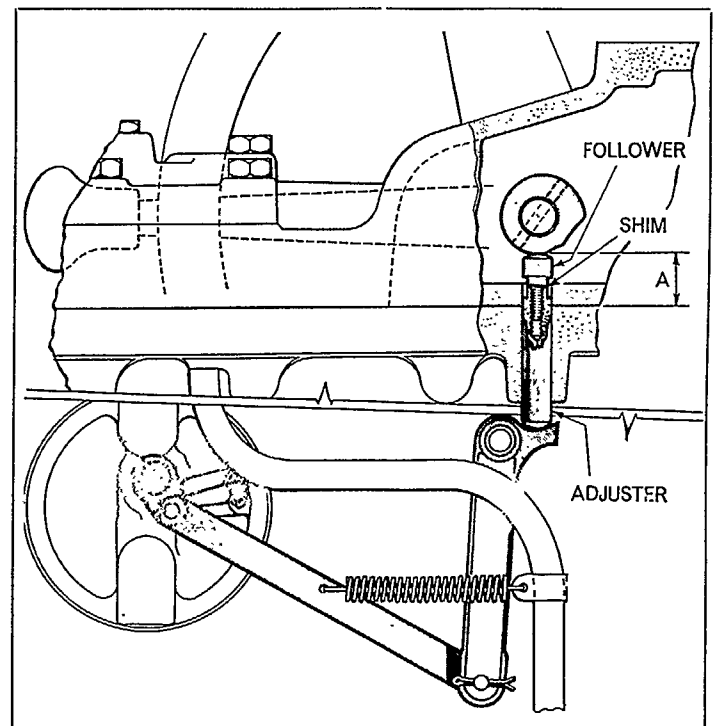

Figure 18
4. Adjust the cam follower by placing shims under it until dimension A, Figure 18, from the face of the rear axle centre housing to the top of the follower, is 0.010 in (0.254 mm) above the distance measured between the cam and lift cover face as in 2.